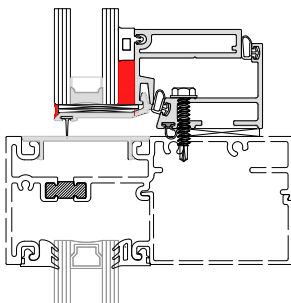

FIG. 4
- Place appropriate horseshoe shims around the perimeter, ensure window is square and plumb. Fasten the window to the framing member using approved fastener. See **FIG 4**.